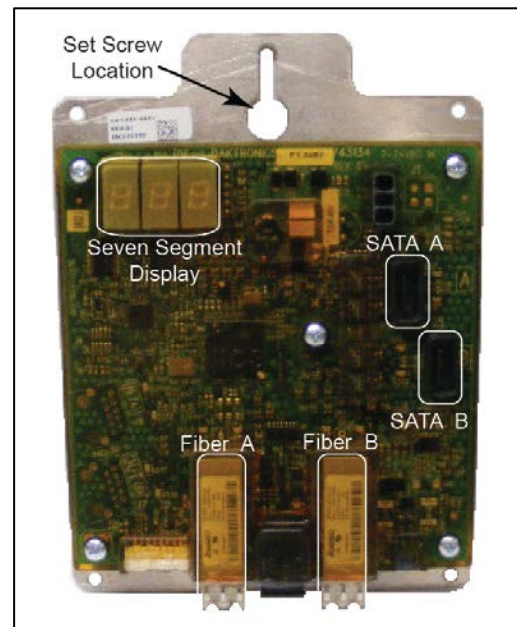

Figure 18: PLR Self Test
1. Connect a duplex fiber cable to Fiber Ports A and B. Refer to **Figure 18**.
Refer to **Figure 18** while completing these steps: